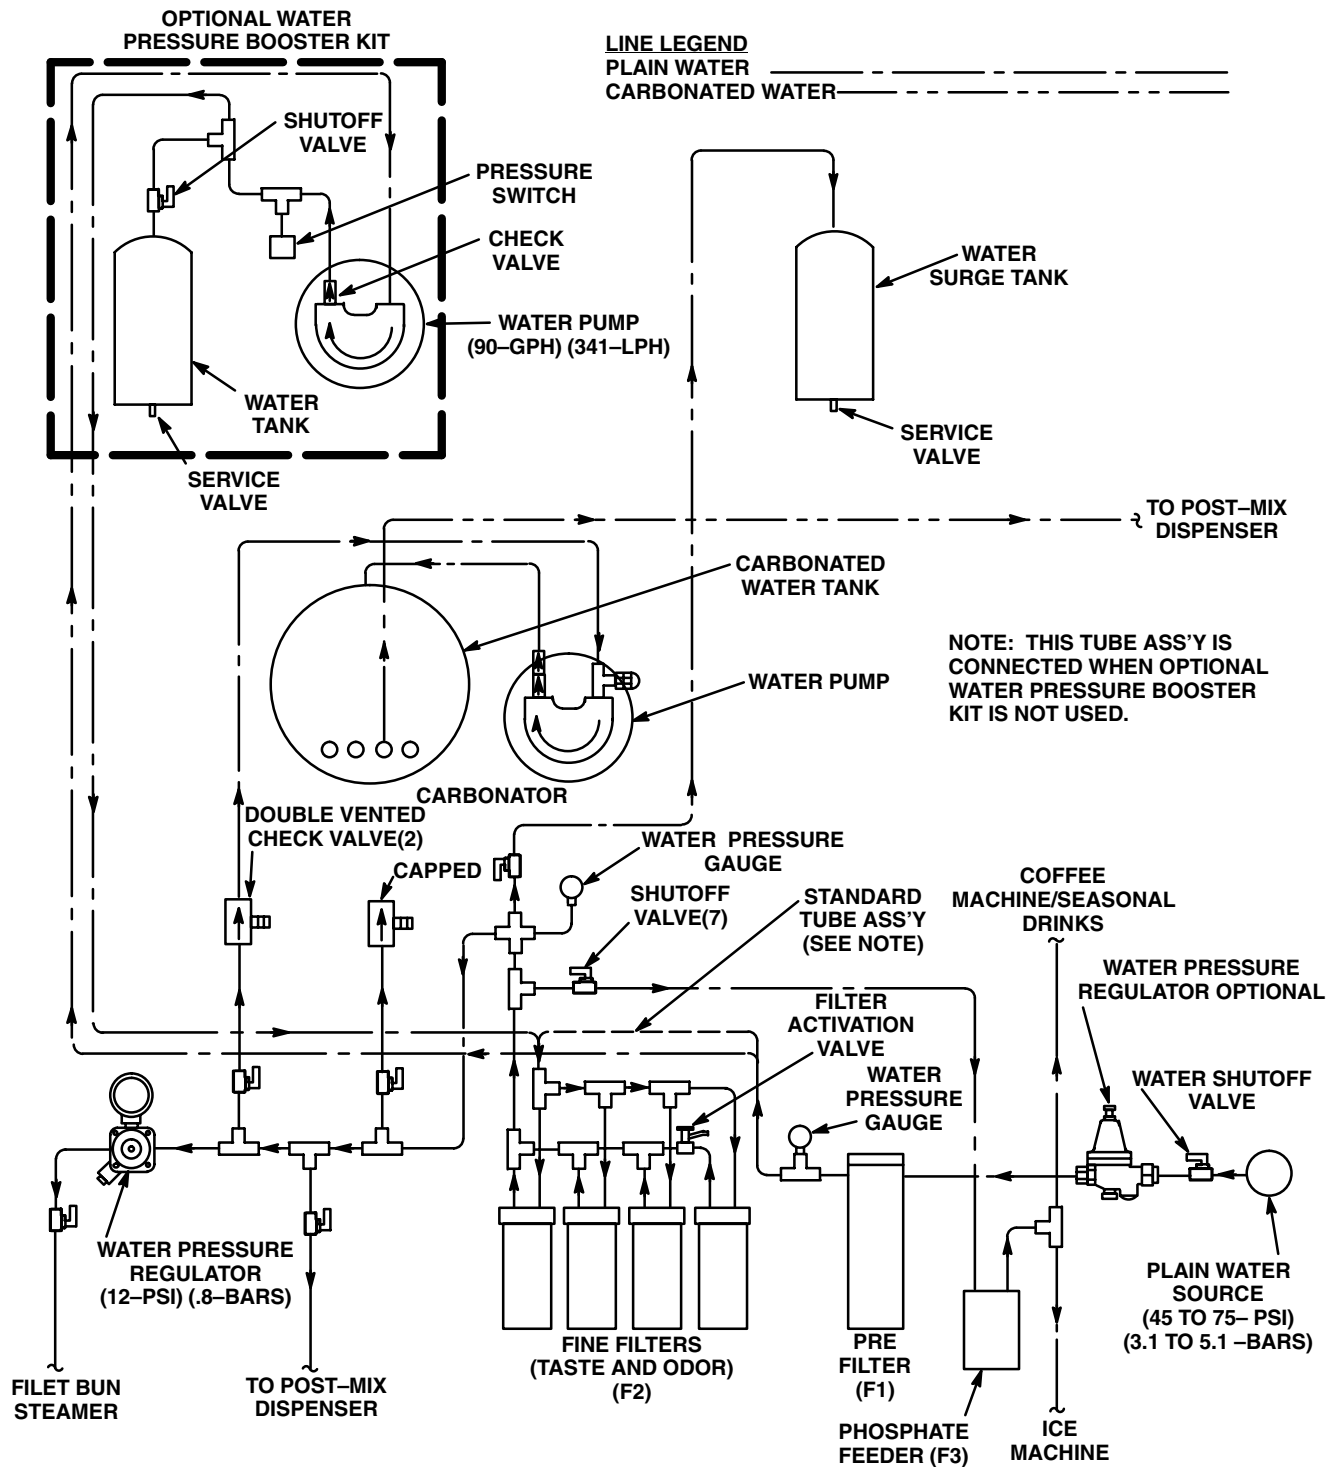

FIGURE 3. PLAIN AND CARBONATED WATER SYSTEMS FLOW DIAGRAM W/EVERPURE WATER FILTERS (MODELS 1416 AND 1548)
4. Place STRAP, SURGE TANK (item 2) in position around water surge tank and align holes in strap with holes in frame where two self-drilling screws were removed.
6. Connect one end of TUBE ASS'Y (item 33) to water surge tank elbow assembly 3/8–inch flare (5/8–18) fitting as shown in applicable Figure 3, 4, 5, or 6. Seal connection with TAPERED GASKET, BLACK (item 4).
7. Connect other end of tube assembly to water manifold assembly 3/8–inch flare (5/8–18) fitting on water filter assembly (see applicable Figure 3, 4, 5, or 6). Seal connection with TAPERED GASKET, BLACK (item 4).
5. Using .156 I.D. tubing provided in installation kit, connect one end of tubing to vented double check valve (see applicable Figure 3, 4, 5, or 6), then route other end of tubing to a permanent floor drain.
5. Beverage Control Panel Assembly equipped with Everpure water filters (see applicable Figure 3 or 5).
7. Installation employing the Optional Water Pressure Booster System Kit (see applicable Figure 3, 4, 5, or 6)
8. Water Surge Tank (see applicable Figure 3, 4, 5,, or 6)